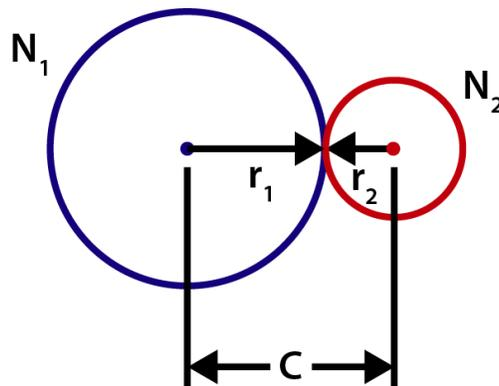

Figure 4: Diagram showing the center-to-center distance of two gears
In addition to the gear ratio, we can also extract the center-to-center (C-C) distance between two gears from their pitches and tooth counts. Equation (8) relates the number of gear teeth for two gears,  $N_1$  and  $N_2$ , and their pitch diameter to the distance between their centers,  $C$ . Figure 4 illustrates this, too.